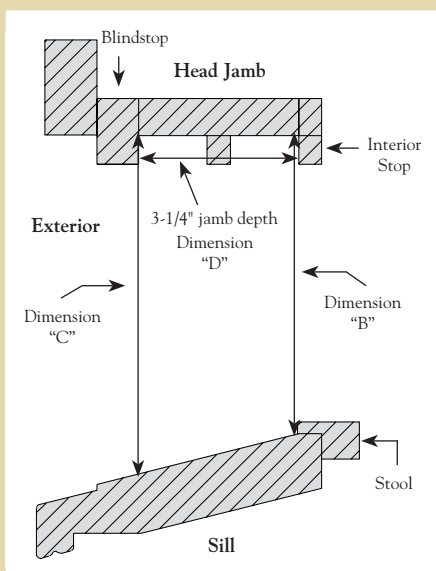

Figure 1 - Cross Section Detail
Check the existing frame for any signs of damaged or rotted wood. Repair or replace any damaged or rotted wood on the frame. Next, measure horizontally between the blindstop and the interior stop (Figure 1) to determine the jamb depth. If the damage cannot be repaired or the jamb depth is less than 3-1/4", the Ultra pocket double hung will not work for you. A new unit with full frame replacement will have to be used instead.
4. For the height of the new window measure twice from the head jamb (top of frame) to the sill (bottom) to get dimension "B" and "C" (Figure 1). Take three measurements - one at each side and one in the middle.
5. Measure horizontally between the blindstop and the interior stop to get Dimension "D" (Figure 1).